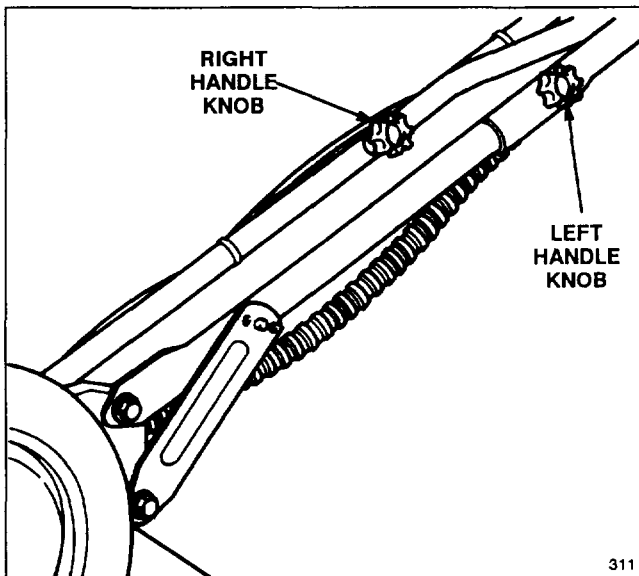
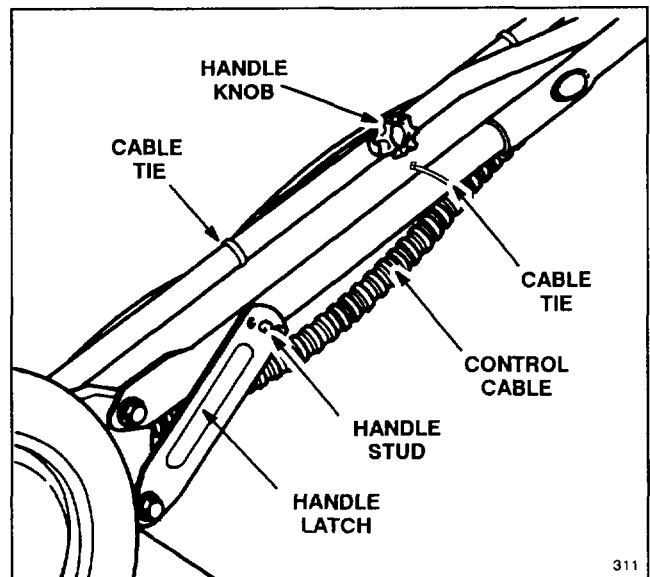

Figure 1
Figure 2
2. The left handle knob is shipped from the factory on the outside of the handle (Fig. 1). Remove the left knob and bolt. Reinstall knob and bolt on inside of handle (Fig. 2). Both handle knobs should be positioned on the inside of the handles. Tighten handle knobs.
3. Move handle latches slightly outward so they will not be in the way when pivoting the handle backward into the operating position (Fig. 2).
4. Pivot handle backward. Move handle latches inward while snapping handle stud into center hole of handle latch (Fig. 2). If a handle latch does not fit tightly against the handle tube, remove latch from handle stud, bend the latch inward, and reattach to handle stud. Repeat as necessary to ensure a tight fit between latch and handle. Make sure handle knobs are securely tightened.
Note: If handle height is not satisfactory, adjust by placing handle stud (Fig. 2) into a different hole. Tighten handle knobs.
5. Ensure control cables (Fig. 2) are to the rear and inside of handles.